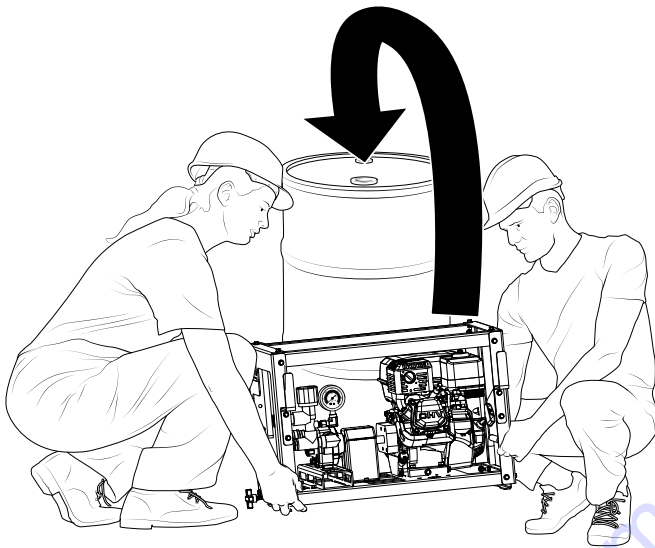

Figure 45. Barrel Mount Placement
4. Make sure your 55-gallon (208-liter) supply drum is located on flat, stable ground. Carefully lift the barrel mount onto the top of the drum (Figure 45). Make sure the unit rests **between** the bung holes in the drum cover.